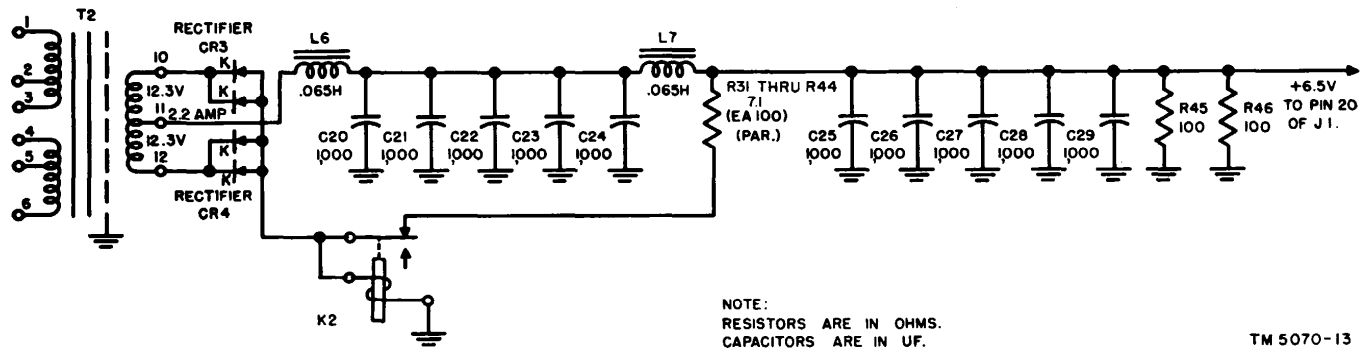

Figure 17. Power Supply PP-327/GRC-9Y, transmitter filament supply.
44. Transmitter Filament Supply (fig. 17)